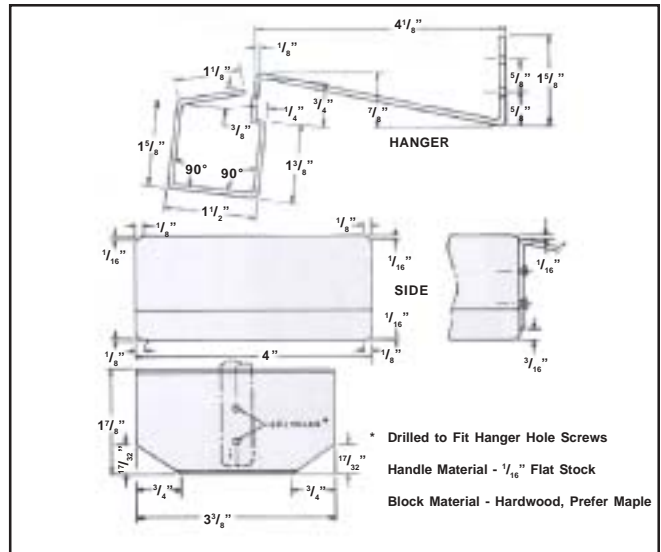

Figure 23 - Suggested Hardwood Spacing Blocks
Insert spacing blocks, shown on Fig. 23, between brake heads of both unit bodies and four (4) wheels as close as possible to the flange (See Fig. 22). If push rod adjustment is necessary to permit spacing block insertion, rotate the push rod end to shorten the push rod (when facing the bolster from the pressure end of brake cylinder and with wrench handle upward, moving the wrench handle to the right will shorten the rod and moving to the left will lengthen the rod).